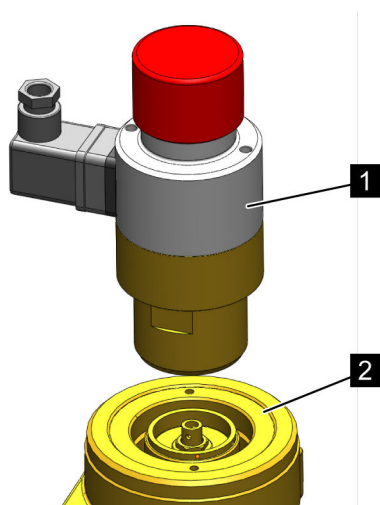

Fig. 23: Screwing on the release device
5. ➤ Screw the electric release device (Fig. 23/1) onto the valve (Fig. 23/2) of the associated extinguishing agent container and tighten with $50 \pm 15\text{Nm}$ ($36.878 \pm 11.063 \text{ lb}\cdot\text{ft}$) until it metalically rests on the valve.